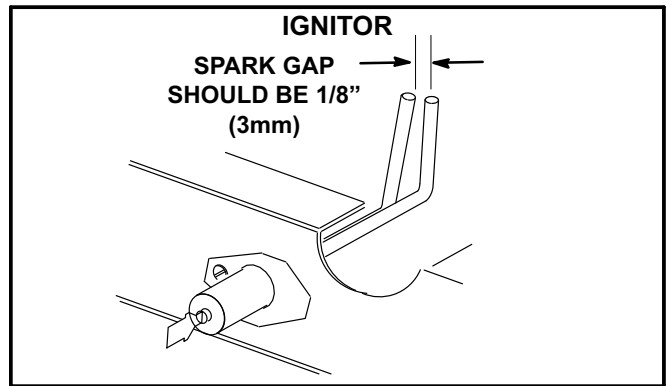

FIGURE 33
- 5- Locate the ignitor under the right burner. Check ignitor spark gap with appropriately sized twist drills or feeler gauges. See figure 33.